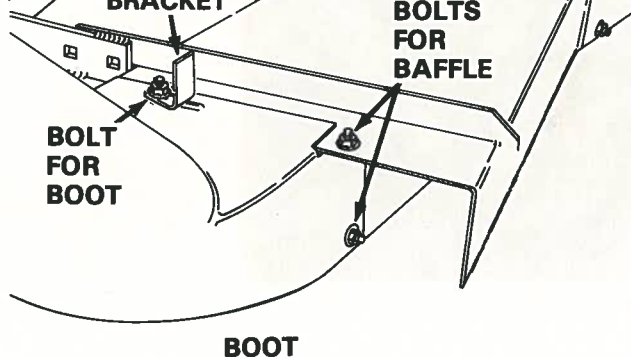

FIGURE 6
2. Attach baffle to boot with one bolt as shown in Figure 6. Leave bolt loose.
3. Attach boot and baffle to discharge opening using hardware provided. Install the support bracket for the discharge chute as shown in figure 6. Slide boot fully rearward and tighten bolts. Place the flat washers against the plastic.